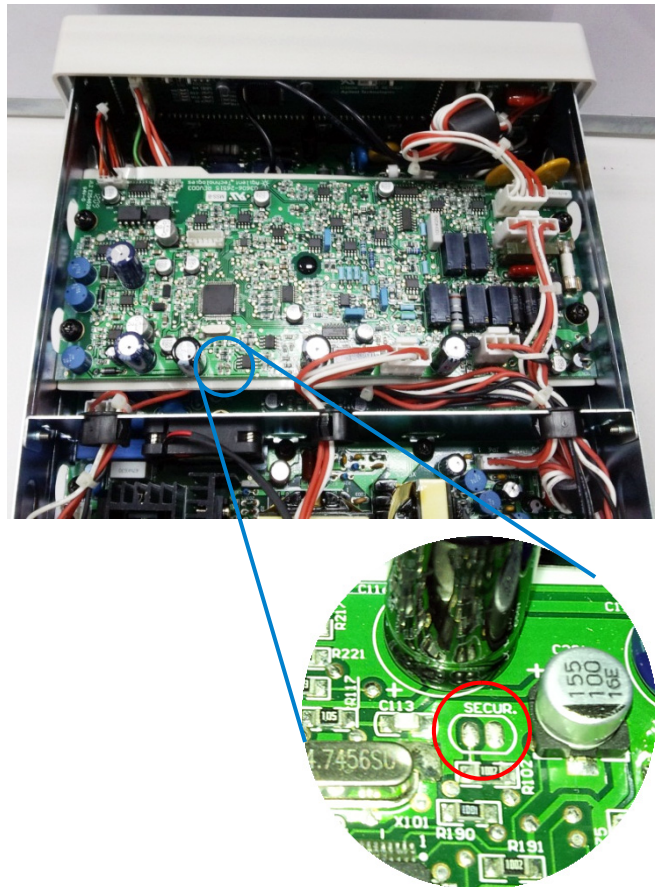

Figure 1-18 SECUR pads location
- 3 Solder a temporary short between the two exposed metal pads on the main printed circuit (PC) board assembly. The general location is shown in Figure 1-18. On the U3606B PC board, the pads are marked as “SECUR”.